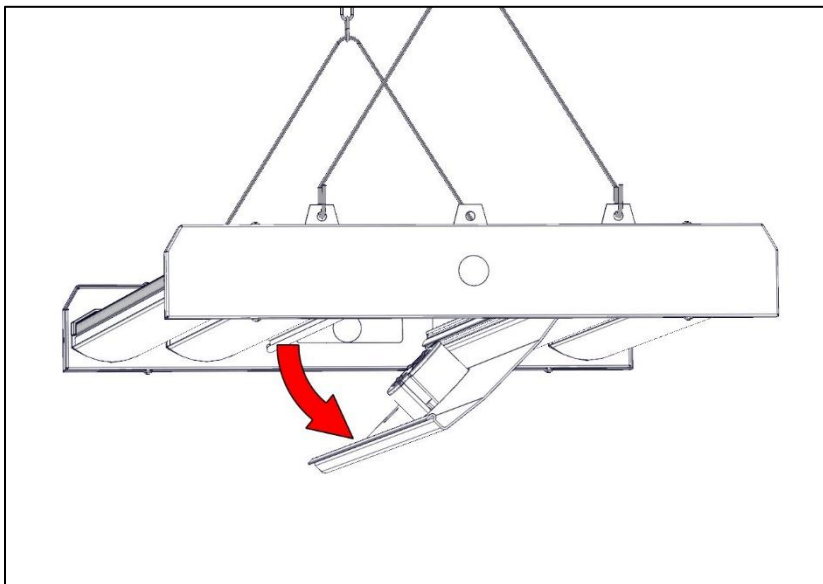

Figure 4
6. Mount the fixture in the desired location using the hooks and chains/cables installed in Step 3, or with two 3/4" trade size pendant stems (provided by others). Open the bottom access door of the LED driver compartment to finish installing the fittings (provided by others) for the pendant stems. (Figures 4 and 5)